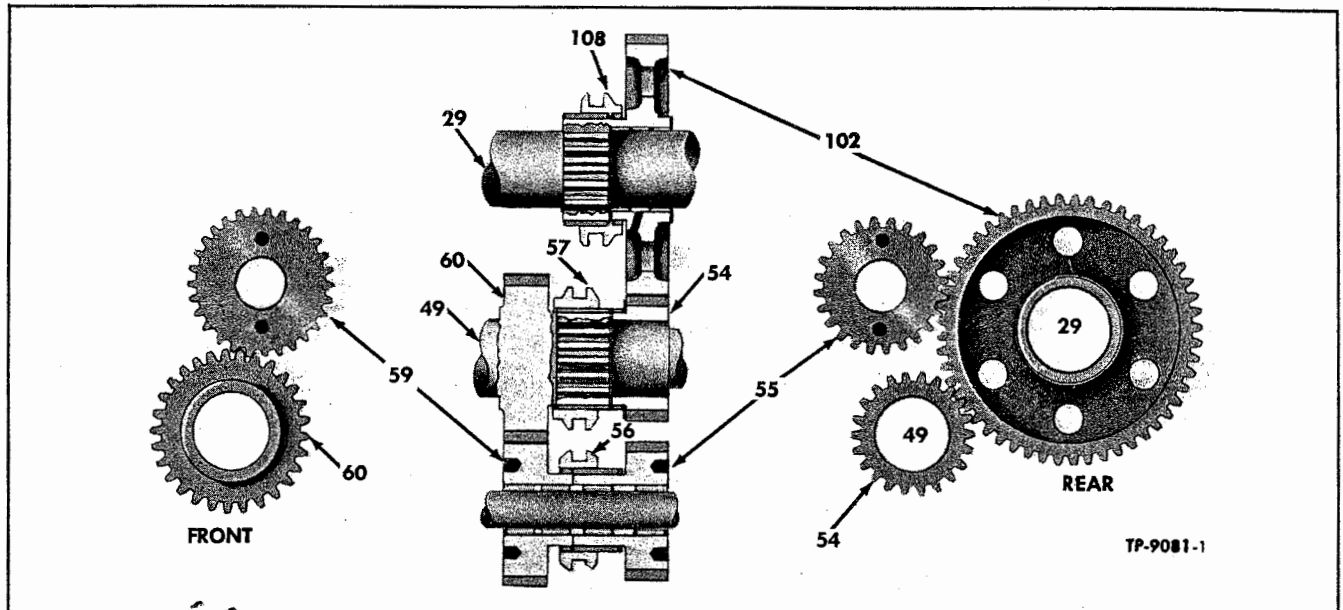

Figure 2—Position of Gears and Clutches in Reverse Operation
Figure 2 shows position of gears and clutches for reverse operation, and power flow is: Main drive gear (77) to countershaft drive gear (64),